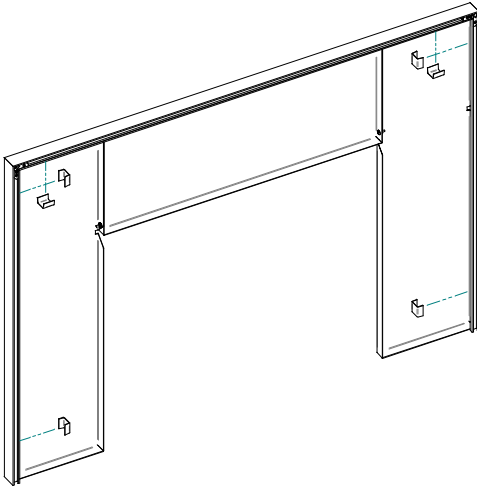

Figure 2.5b
5. Secure trim to faceplate using six (6) "U" shaped clips. (see Figure 2.5b)